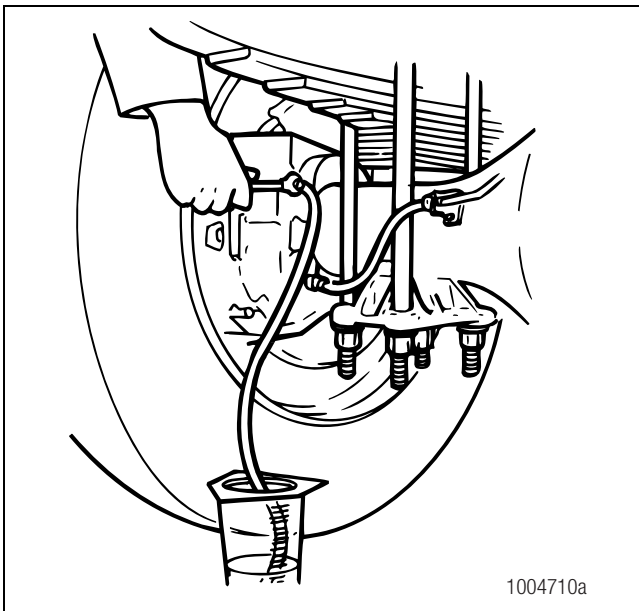

Figure 3.13
9. Submerge the tubing in a container of clean hydraulic brake fluid. Figure 3.13.
7. Submerge the tubing in a container of clean brake fluid. Figure 3.13.